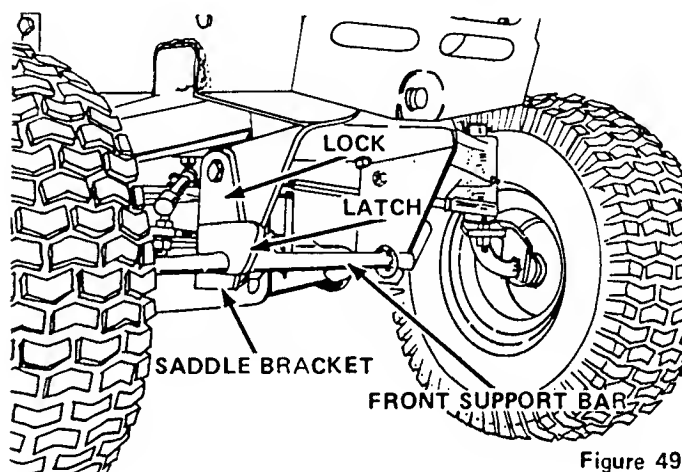

Figure 49
7. Position front support bar in the tractor saddle brackets and secure with the locks and latches as shown in Figure 49.